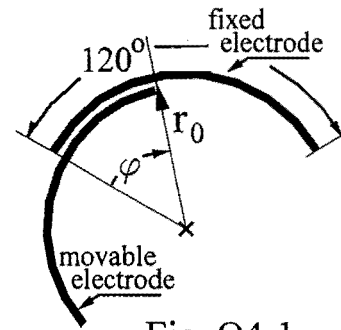

Fig. Q4-1
**Q4, 10 pts:** Fig. Q4-1 shows an electrostatic volt-meter, which is a capacitive system consisting of a movable and a fixed electrode. The movable electrode can rotate on a pivot to keep a constant air gap “d” between two electrodes. Consider only ideal case with no fringing flux. A torsional spring is connected to the movable electrode to balance the movable electrode torsion. Its torque is:  $T_{spg} = -K_s \varphi$ .